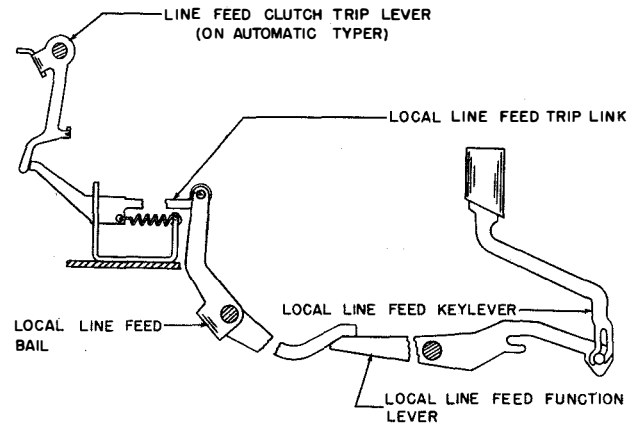

Figure 2-22. Local Line Feed Mechanism
f. LOCAL LINE FEED.—Operation of the local line feed keylever (red) causes its function lever to raise the forward end of the local line feed bail (figure 2-22). The bail rotates about its pivot point and the upper end pushes the trip link until the link engages the line feed clutch trip lever on the Automatic Typewriter. Thus, the line feed mechanism on the local Automatic Typewriter is made to operate without disturbing the other Automatic Typewriters on the same line circuit. The line feed mechanism is fully described in paragraph 4.i.(5) of this section.